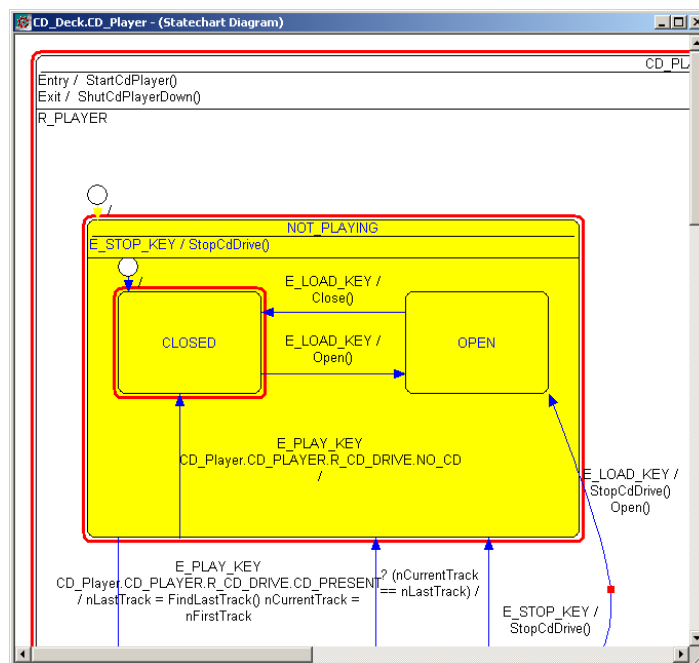

Figure 147: Example of graphical animation
- 1 On the Validator menu, choose Debug>Graphical Animation, or click the Graphical Animation button on the Debug toolbar. This launches the Designer in simulation mode. See *Figure 147*, page 179.